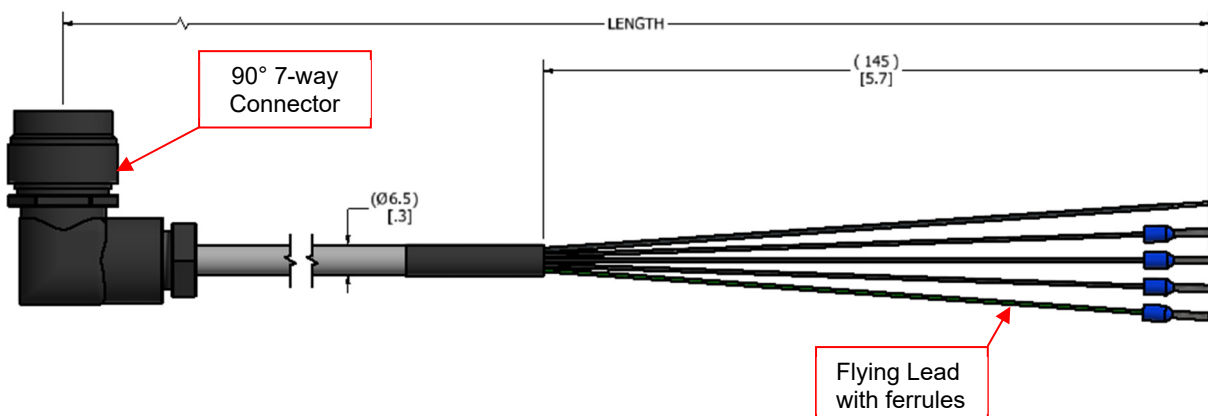

Figure 1-13 Power/Data Cable
The power/data cable (Figure 1-13) consists of (2) 0.75mm² power wires, (2) 0.75mm² control wires and (1) earth/shield wire. The cable ships with a 90° 7-way connector installed on one end and flying leads with 0.75mm² ferrules on the other end. The end with the wire ferrules can be cut if the customer requires a shorter length.